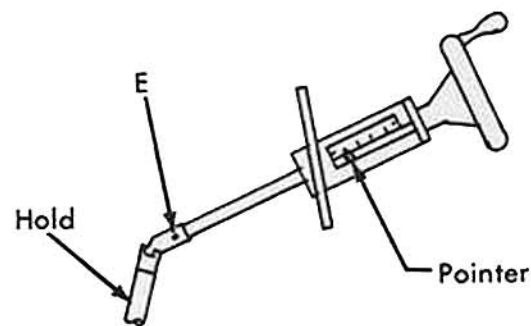

Fig. 3
5. To synchronize pointer on speed indicator with the drive unit (a) Loosen set screw "E", (See Fig. 3) (b) Hold bottom shaft steady and turn handwheel until pointer agrees with low speed limit, (c) Tighten set screw "E".